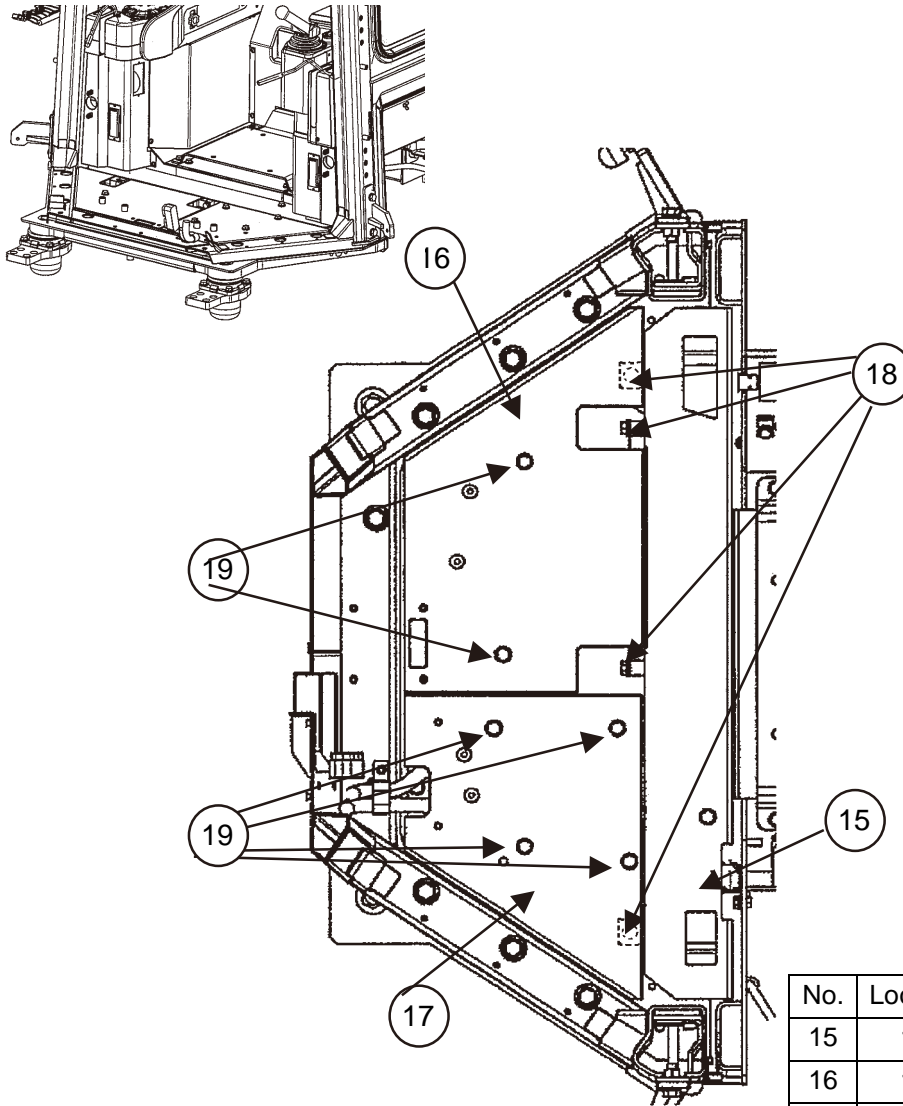

Fig. 10 Installation of floor ducts
Install floor ducts (15) – (19) as shown in Fig. 10.